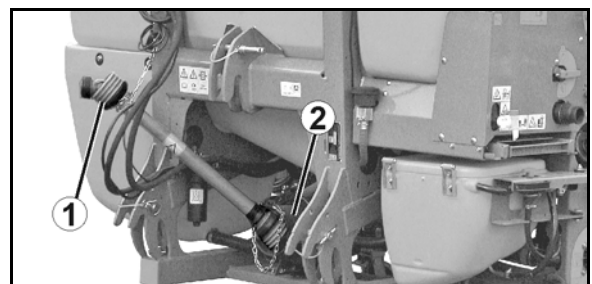

Fig. 12
- Fig. 12/...
- (1) PTO shaft guard
- (2) Machine PTO shaft guard